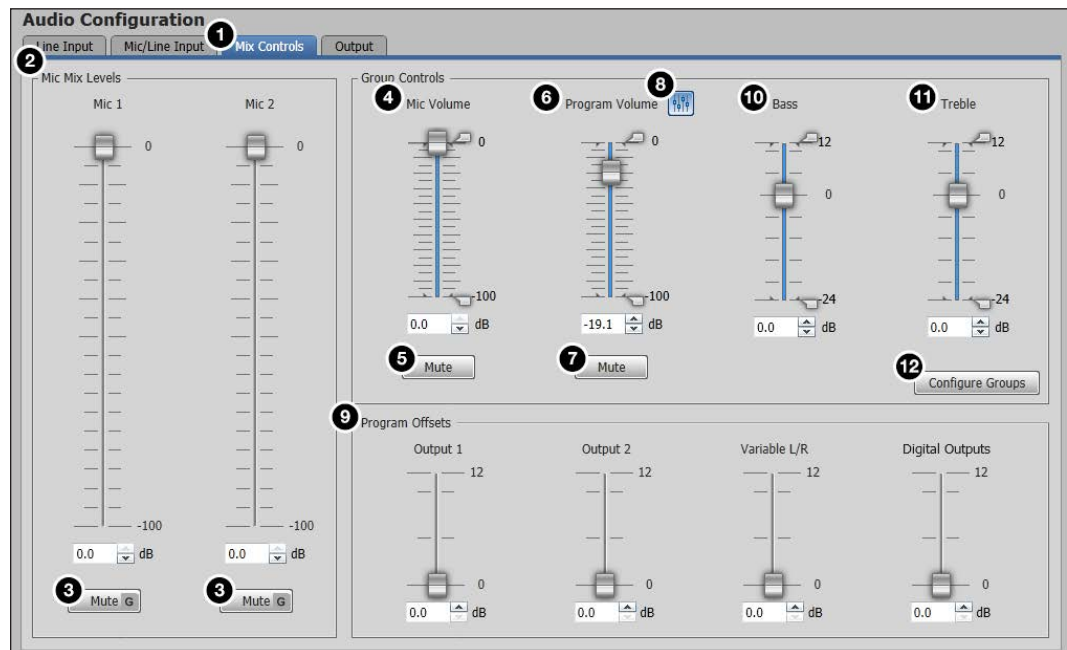

Figure 72. Mix Controls Tab
After the audio inputs have been properly configured, select the **Mix Controls** tab (see figure 72, **1**) to mix microphone levels, create a mix of the microphone and program volume, and set bass and treble settings.
1. Click the **Mix Controls** tab (see **figure 72, ①**, on page 104).
2. Adjust the level using any of the following methods (**②**):
3. To mute the mic/line gain, click the **Mute** button (**③**), below the corresponding **Mic** fader.
1. Click the **Mix Controls** tab (see **figure 72, ①**, on the previous page).
2. Adjust the level using any of the following methods (**④**):
4. To mute the microphone inputs, click the **Mute** button (**⑤**) below the **Mic Volume** fader.
1. Click the **Mix Controls** tab (see **figure 72**, **1**, on page 104).
1. Click the **Mix Controls** tab (see figure 72, **1**, on page 104).